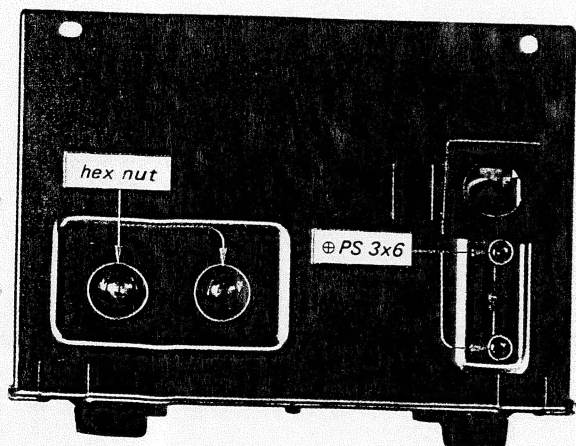

Fig. 2-6 Control and switch replacement
1. Remove the two screws ($\oplus PS 3 \times 6$) securing the defective switch to the front subchassis as shown in Fig. 2-6.
1. Remove the hex nuts that secure the controls to the front subchassis as shown in Fig. 2-6.